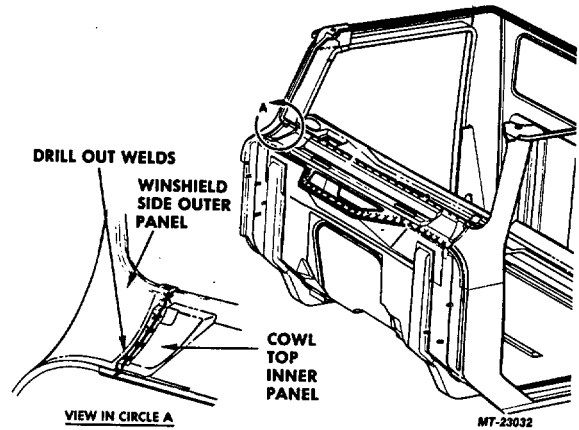

Fig. 43. Windshield Outer Panel to Cowl Inner Panel Spot Welds (Rt. Side Shown)
7. Drill out five spot welds and separate windshield side outer panel from cowl top inner panel (Fig. 43).